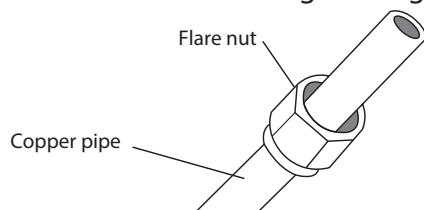

Fig. 6.6
3. Place flare nuts on both ends of pipe. Make sure they are facing in the right direction, because you can't put them on or change their direction after flaring. See Fig. 6.6